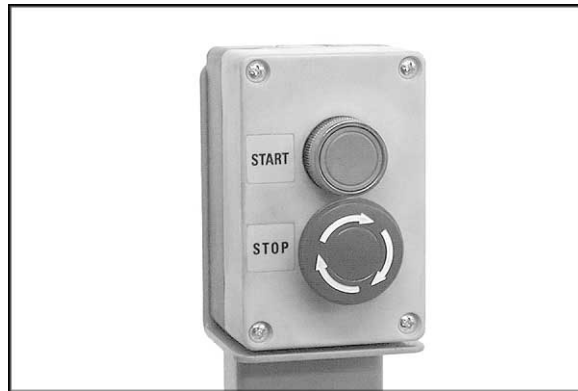

Figure 10
1. Connect machine to power source and press the start button, shown in Figure 10. (See "Operating Controls" on page 24 for further information on the control switch.)
2. The cutterhead should rotate clockwise as viewed from the front of the machine. If the cutterhead rotation is incorrect, press the stop button (Figure 10) and **disconnect machine from power**.